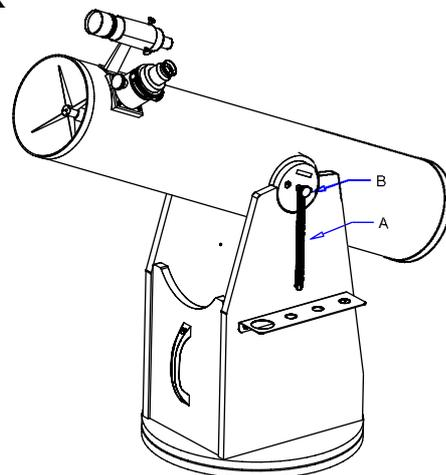

Fig 1. Spring 'A' and existing bolt 'B'
1) The 'original model' GSO Dobs can be identified by having springs on their Altitude axis as shown in Fig1. Detach spring 'A', as indicated in Fig 1, from rocker box.